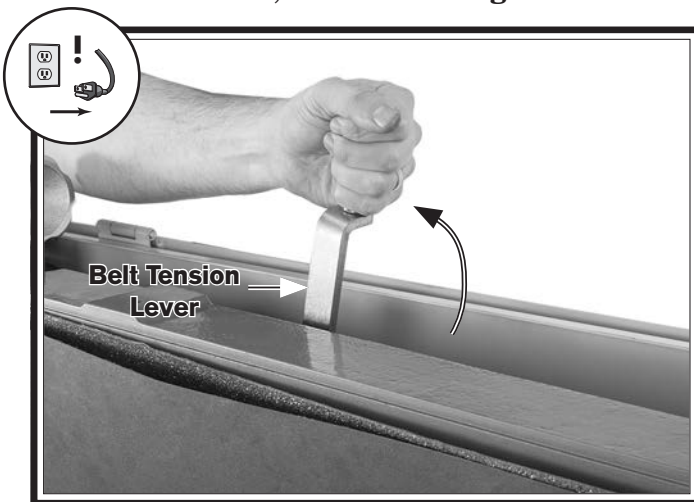

Figure 30. Moving belt tension lever to un-tensioned position.
- Move belt tension lever up and toward contour drum, as shown in **Figure 30**.